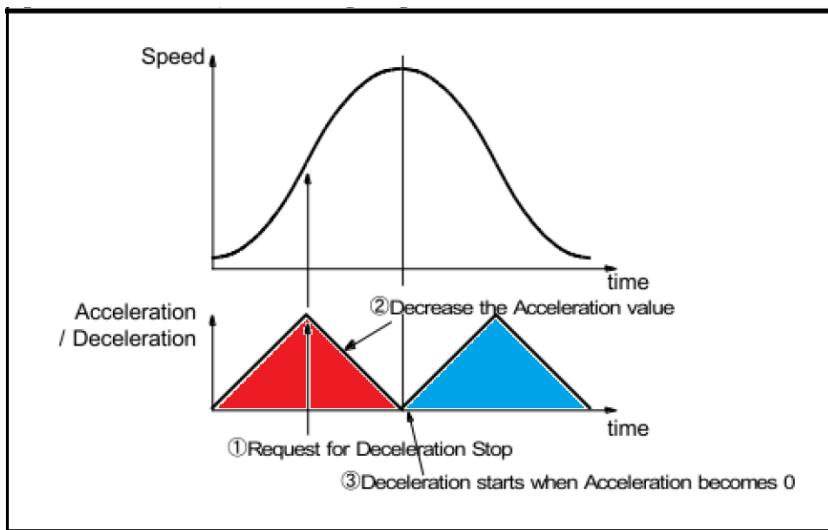

Figure 1
(II). After reaching the maximum speed (③ or blue section as below figure 1): The deceleration starts (or continues) with specified DC and S factor, and the motion stops when the speed reaches VS.